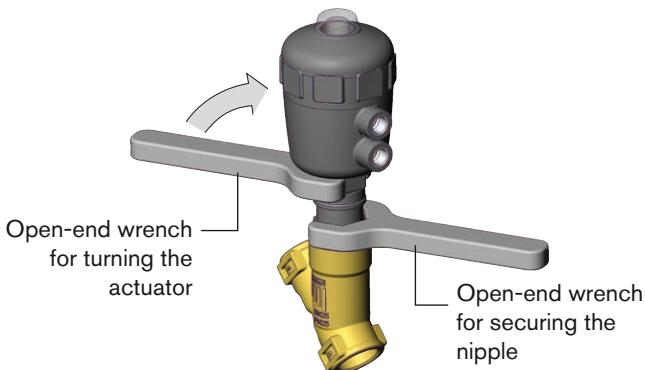

Fig. 20: Turning with open-end wrench
- Turn the actuator **in the specified sense of direction only** (see Fig. 20.).